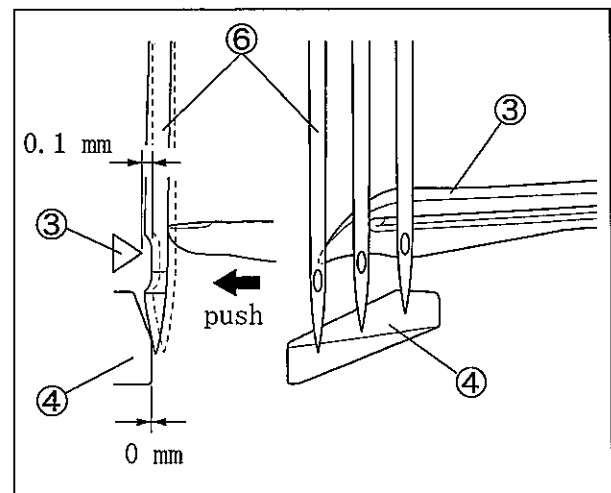

Fig. 62
- (3) When the looper ③ tip comes in the center of the left needle ⑥, and the left needle ⑥ is pushed on the needle guard(rear) ④, make the clearance between the looper ③ and the left needle ⑥ to about 0.1 mm. (Fig. 62)